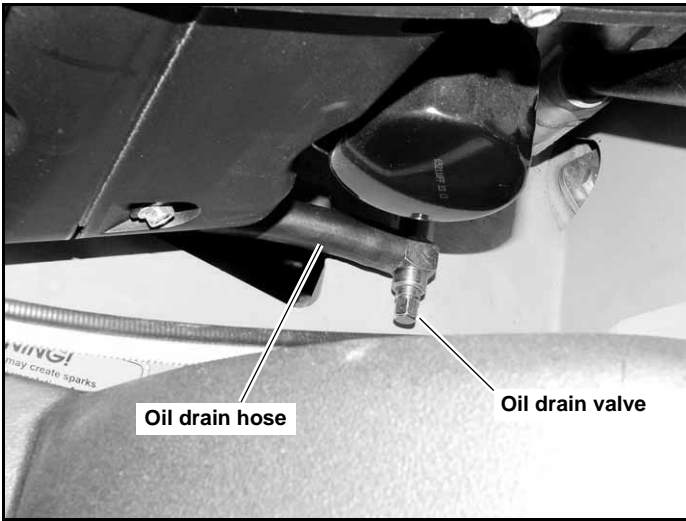

Figure 5-2
3. Locate the oil drain hose that was supplied with the machine. Be sure to clean and clear it of debris that might block the flow of the engine oil. Figure 5-2
2. Locate the oil drain hose that was supplied with the machine. Be sure to clean and clear it of debris that might block the flow of the engine oil. Figure 5-2
8. Clean the oil drain hose and store it appropriately. Figure 5-2